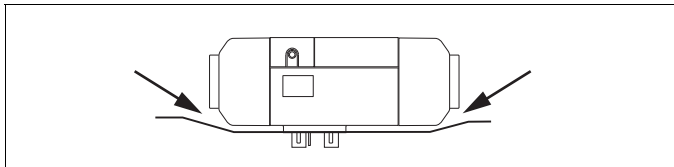

Fig. 7 *Ensure ease of movement of all moving parts!*
- ▶ Make sure that the casing of the heater is clear, i.e. does not make contact with any other parts, in installed position (see Fig. 7).
see Fig. 3 and Fig. 7